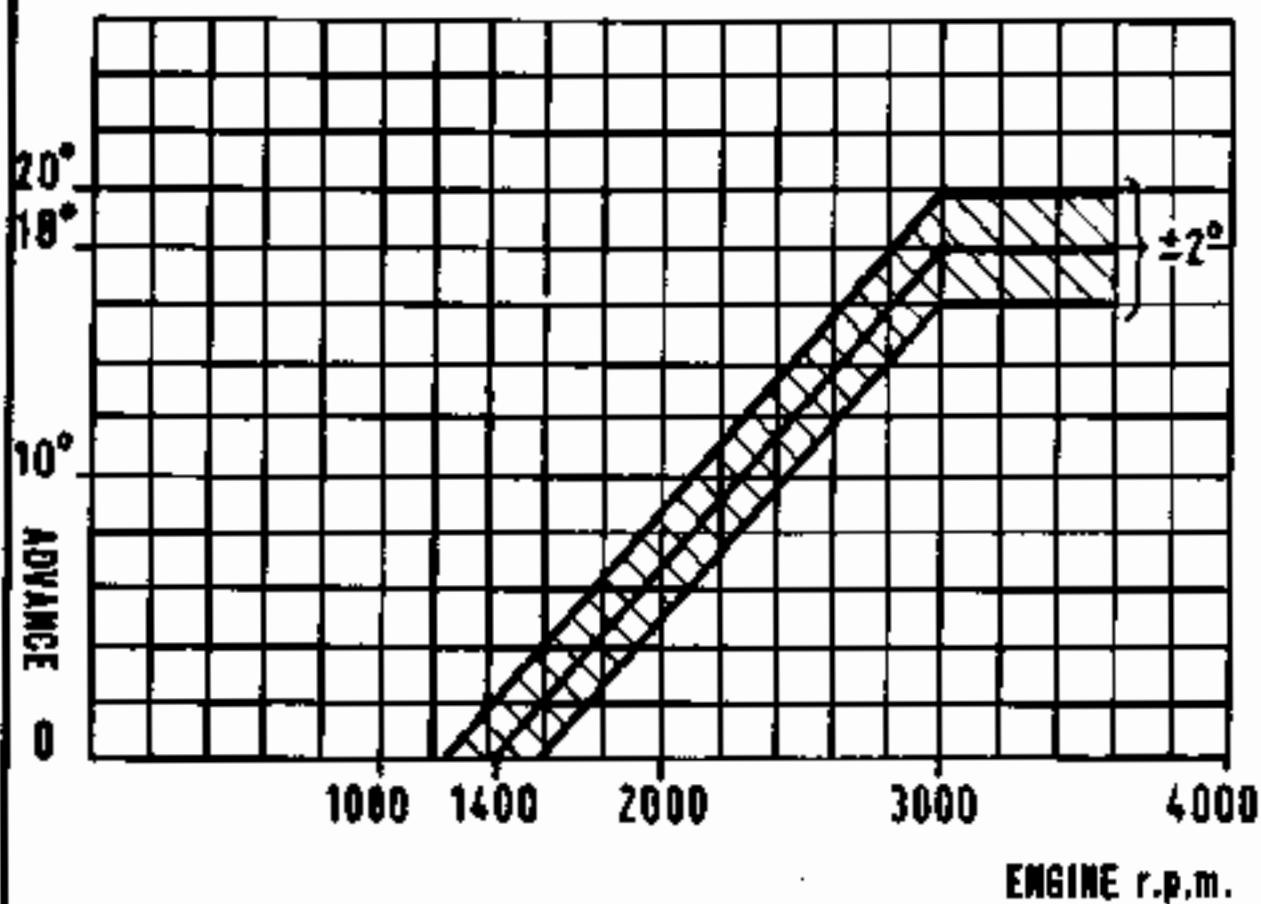

Fig. 4.3. Ignition cover/agit advance
- 3 For those who own a stroboscope the timing is given in the form of a graph in Fig. 4.3.